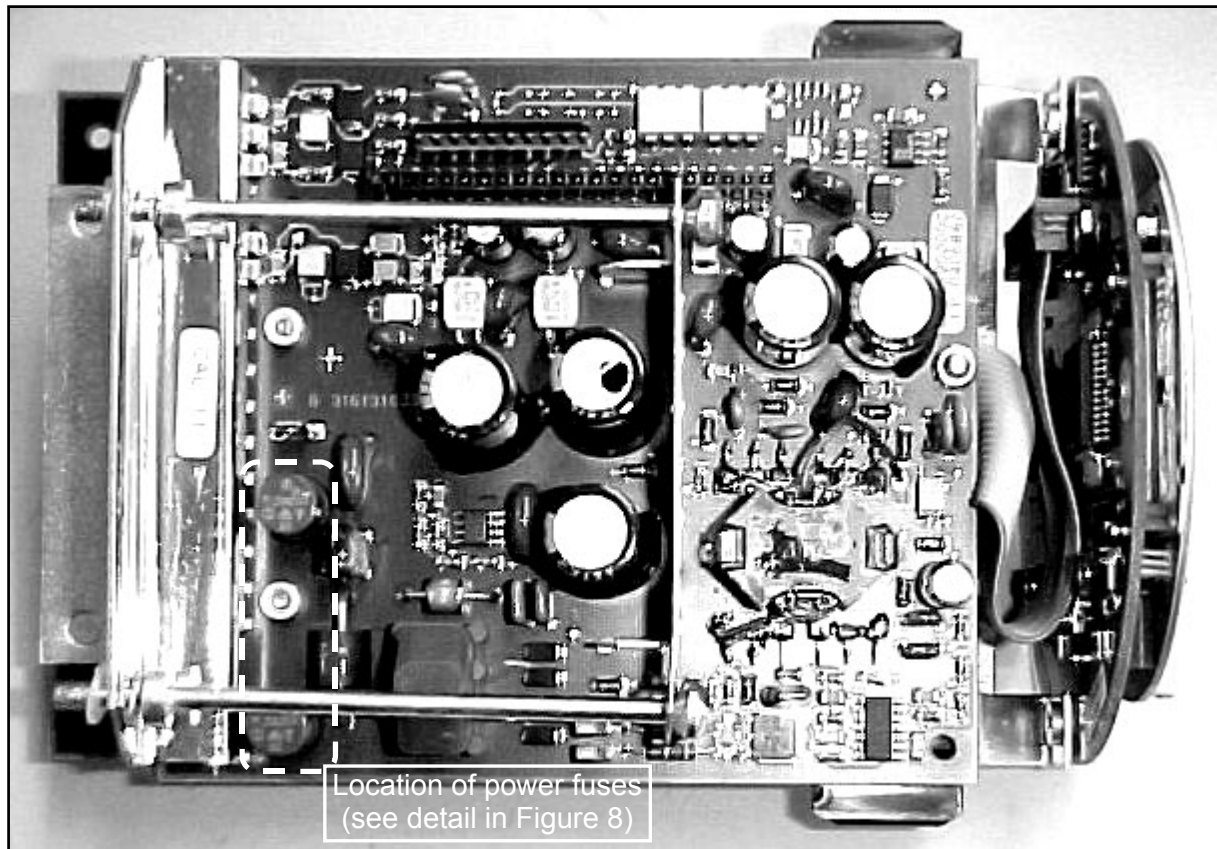

Figure 7: GFC 700 electronics unit with 24 VAC/DC power supply.
4. The power fuses F1 and F2 (see Figure 7 below) can be replaced now. The 24 VAC/DC power supply uses two sub-miniature fuses of **T1.25A** in accordance with IEC 127-3.